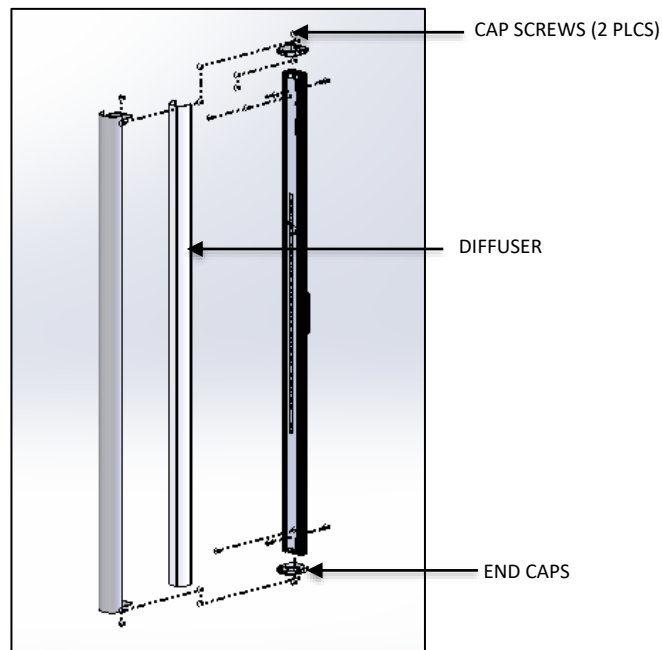

FIG.6 – DIFFUSER DISASSEMBLY
3. Remove the END CAPS by unscrewing the CAP SCREWS and remove the DIFFUSER by sliding it outwards as shown in FIG. 6.